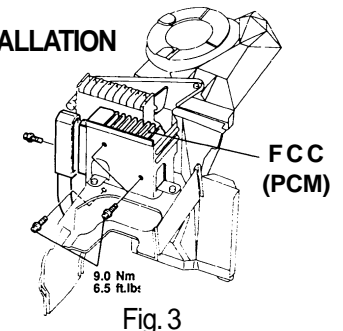

Fig. 3
5. Remove 60-way connector from FCC (PCM) (Fig. 3)